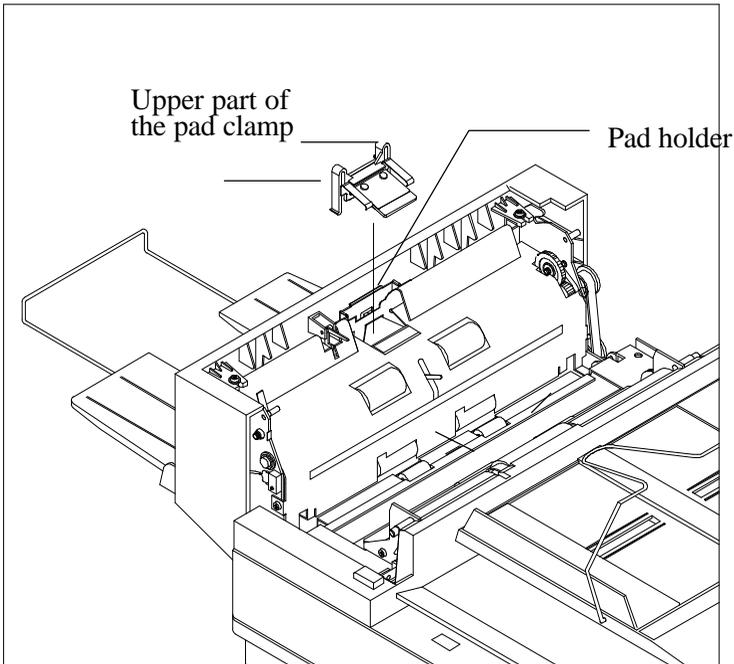

Figure 2 Install the pad module
2. Hold the upper part of the pad clamp and place it gently to the pad holder as shown in Figure 2.